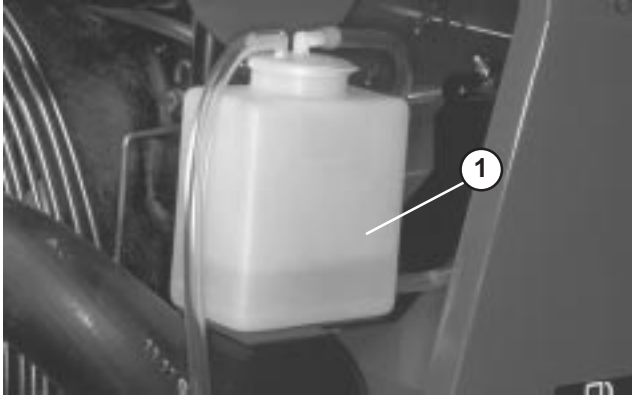

Figure 5
1. Carefully remove radiator cap (Fig. 6) and expansion tank cap (Fig. 5).